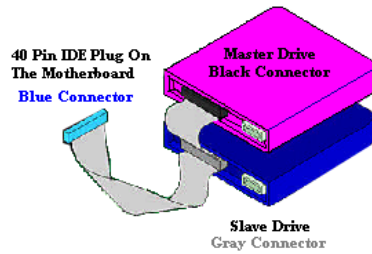

Figure 2-12. How to connect an ATA/66 Cable to the Motherboard
- Attach the BLACK connector to the mating plug on the master hard drive. Attach the GREY connector to the mating plug on the slave drive (secondary hard drive, CD-ROM, or tape drive). Please refer figure 2-12.